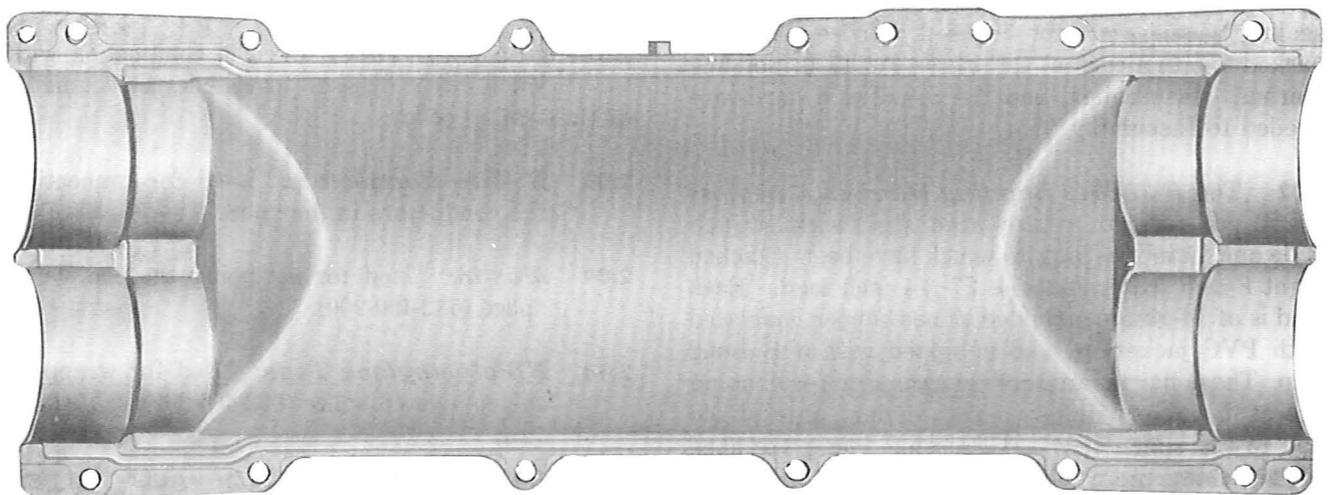

Fig. 1—21D4 Splice Case
1.01 This section covers the installation of the 21D4 Splice Case (Fig. 1), used to enclose the splice between the central office connector stub cables and feeder cable. See Section 633-400-200 for descriptive information of other 20- and 21-type splice cases that can be used in this manner, when a case as large as the 21D4 is not required.